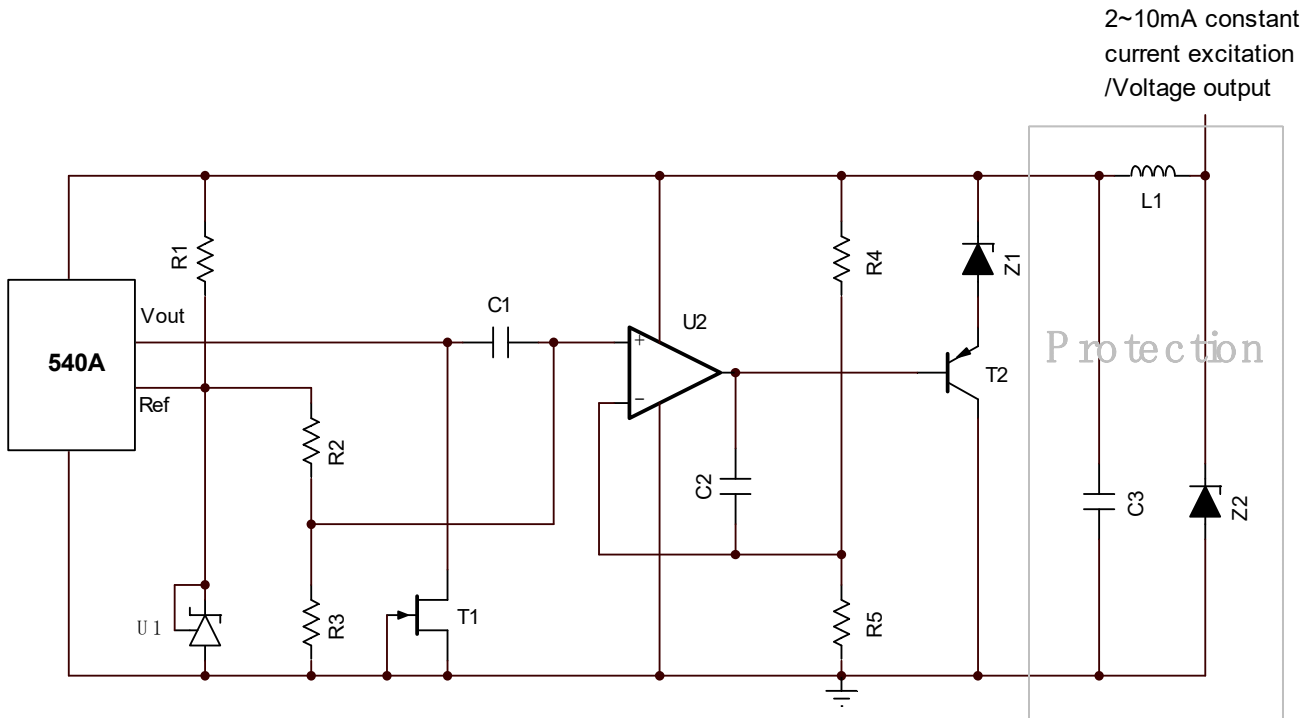

Figure 10 IEPE circuit
**See figure 10.** This circuit can build an IEPE sensor with 540A and a few components.